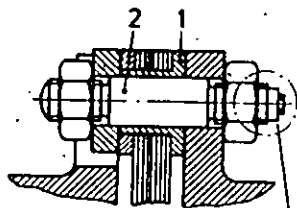

Fig. 4.1
4.5.1. Loosely bolt plate packs to spacer (fig. 4.1).
- 4.5.4. Tighten nuts and check bolt elongation. Bolts (part No. 2) are supplied with an elongation measuring attachment (see fig. 4.1). On a bolt without pre-stressing, zero markings on nut and measuring screw (part No. 3) are in line. The measuring screw has vernier markings on its circumference. After tightening the nut, the bolt elongation can be read off the vernier scale after screwing down the measuring screw; one graduation mark = 0.1 mm bolt elongation. In order to simplify elongation measurements all close fitting bolts, size M 30 up, in coupling sizes 350 and larger are furnished with measuring balls at the end faces.